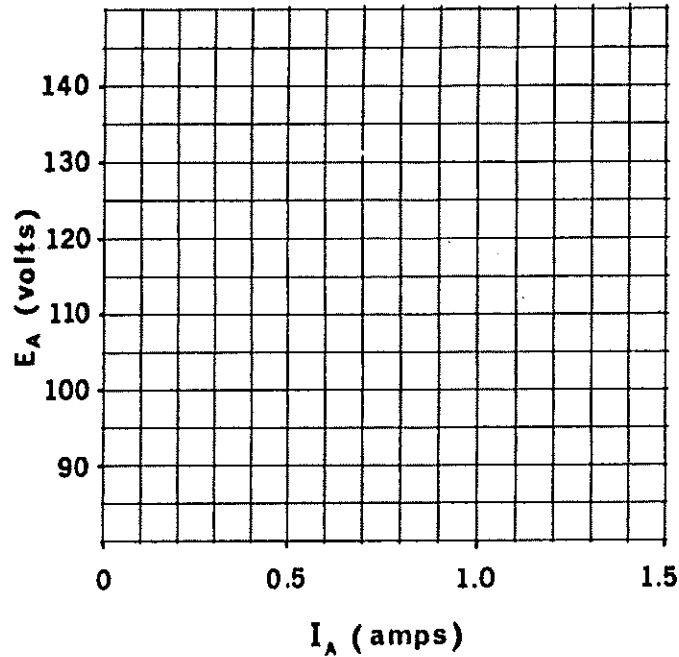

Figure 9-5.
4. Plot the E_A vs I_A regulation curve on the graph of Figure 9-5. Use the data from Table 9-1.